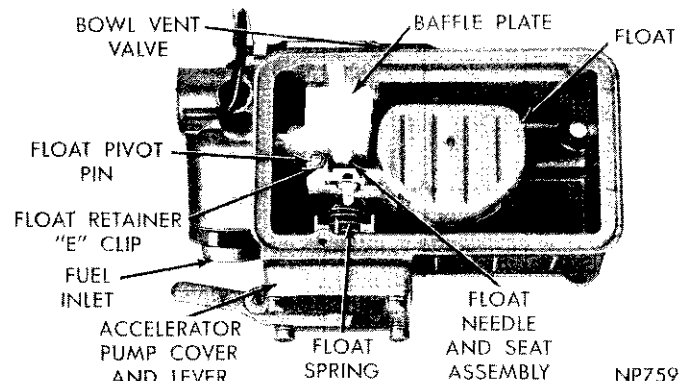

Fig. 6—Primary Fuel Bowl Assembly
- (1) Remove primary bowl vent valve assembly (Fig. 6). On E.C.S., remove operating rod assembly.
- (2) Remove float retainer "E" clip, then slide float and spring out of float chamber. (As float is being removed, the fuel inlet needle may drop out of seat assembly.) Remove float baffle.
- (3) Remove fuel inlet needle valve seat. Discard the gasket.
- (4) Remove screws attaching accelerator pump cover. Remove cover, then carefully remove diaphragm and spring.
- (5) Remove fuel inlet fitting and discard gasket.